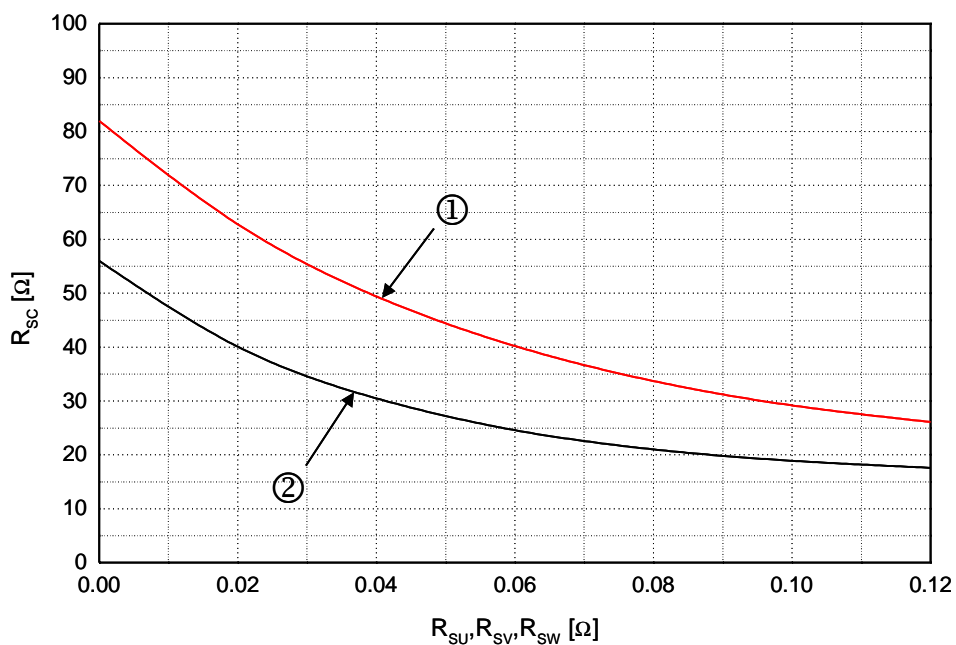

Fig. 6. Rsc Variation by change of Shunt Resistors ( RSU, RSV, RSW) for Short-Circuit Protection
- Short-circuit current protection is functioning only at the low-sides. It would be recommended that the value of the external sensing resistor ( $R_{SC}$ ) should be selected around 56  $\Omega$  in order to make the SC trip-level of about 15A at the shunt resistors ( $R_{SU}, R_{SV}, R_{SW}$ ) of 0 $\Omega$ . For the detailed information about the relationship between the external sensing resistor ( $R_{SC}$ ) and the shunt resistors ( $R_{SU}, R_{SV}, R_{SW}$ ), please see Fig. 6.
9. For the use of shunt resistors ( $R_{SU}$ ,  $R_{SV}$ ,  $R_{SW}$ ), please see Fig. 6 in order to select the proper  $R_{SC}$ .